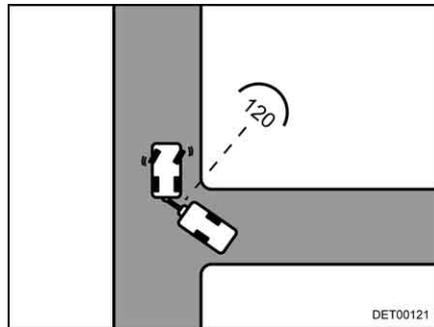

Fig. 19 Approach
- As soon as both vehicles are at an approximate angle of 120° to each other, come to a stop (Fig. 19).